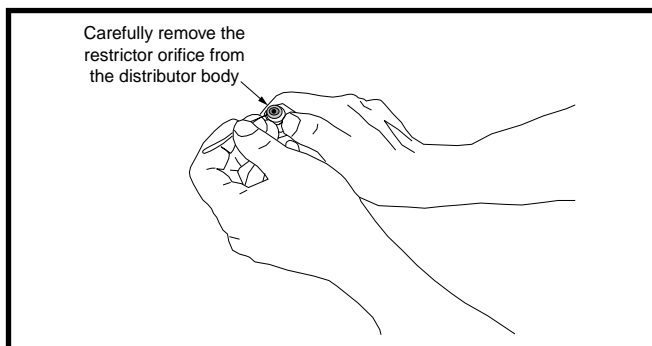

Figure 3. Removal of Orifice
2. Insert a light-gauge wire hook between the distributor body and the restrictor orifice while being careful not to scratch either part. Carefully remove the restrictor orifice from the distributor body. See Figure 3.
3. Insert a light-gauge wire hook between the distributor body and the restrictor orifice while being careful not to scratch either part. Carefully remove the restrictor orifice from the distributor body. See Figure 3.